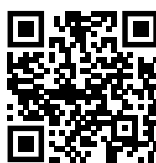

Fig. 86
- ▶ Open Liebherr SmartMonitoring Dashboard. (see Fig. 86)